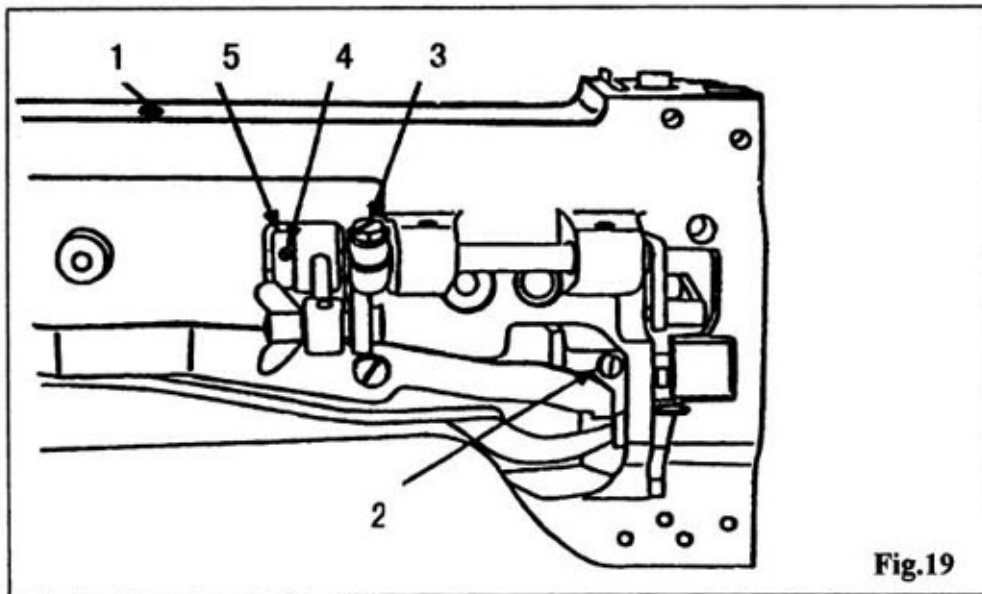

Fig.19
17. ADJUSTING THE HEIGHT OF THE PRESSER FOOT (Fig.19)
18、 TIMING OF THE VIBRATING PRESSER FOOT (Fig.19)